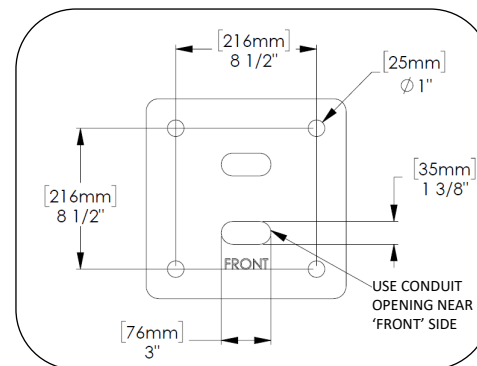

Fig. 3 - Anchor template detail
1. Using 5mm hex key, remove driver cover plate, see Fig. 1. Remove button head screws and set aside. Slide cover plate up and out to disengage from pole. For units with a footlight, the footlight driver is secured to the cover plate. Remove gently, using caution not to break the wiring from the cover plate. See Fig. 3. Disconnect footlight driver at quick-disconnect.